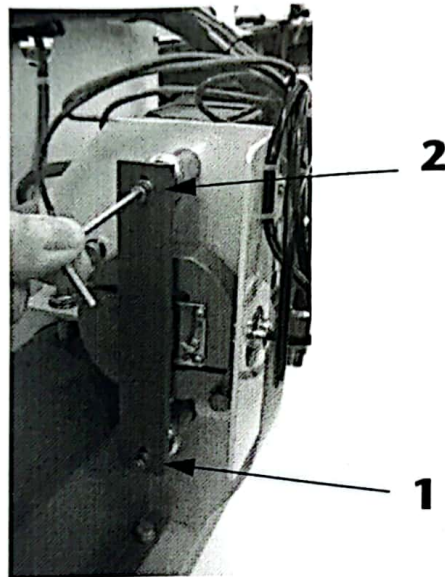

*Figure 17 Fit the One-way Valve and Inlet Pipes*
7. Fit the one-way valves to the pump inlet pipes, then connect the pump inlet pipes, including the connection to the two-way valve (see Figure 17). Tywrap the bleed pipe to the nearest inlet pipe.